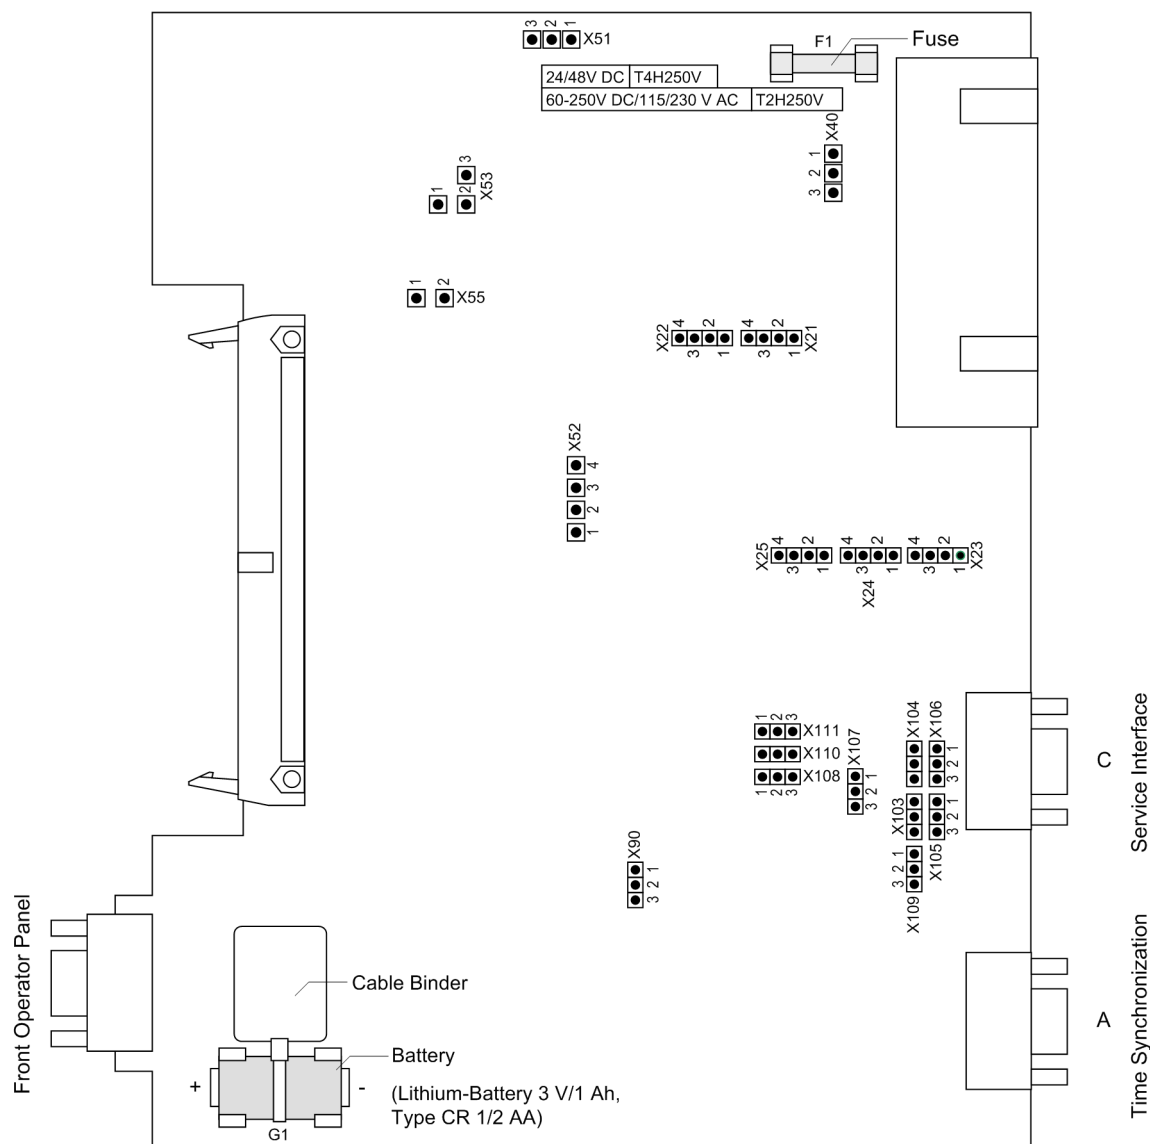

Figure 3-5 Processor printed circuit board C-CPU-2 with jumpers settings required for the board configuration
- Check the jumpers according to Figures 3-5 to 3-13 and the following information. Change or remove the jumpers if necessary.